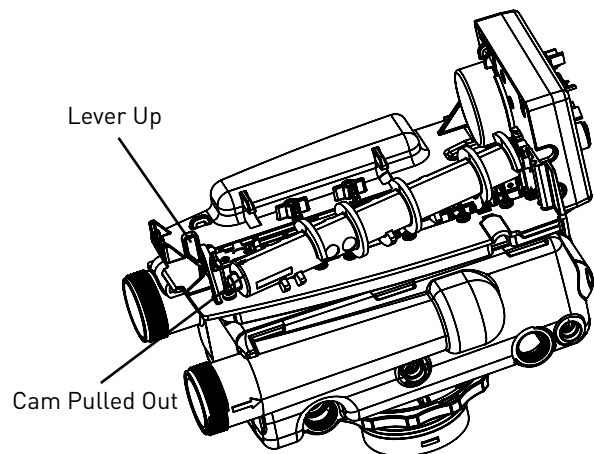

Figure 17
4. Rotate the locking lever to point up (Figure 17).